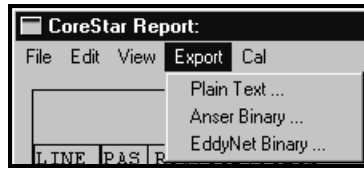

Figure 3-71. Export Menu on Report Editor Dialog
Figure 3-71 shows the contents of the **REPORT > Export** menu, which contains three (3) selections. They are: **Plain Text ...**, **Anser Binary ...**, and **EddyNet Binary ...**.